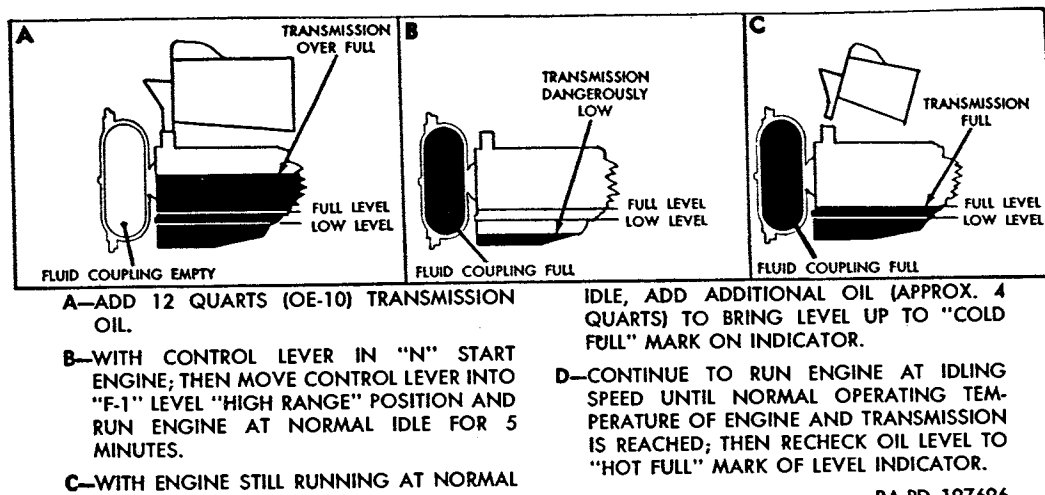

Figure 187. Typical method of filling transmission.
- (1) With transmission and fluid coupling thoroughly drained and drain plugs installed (*d* above), lift floor plate to gain access to transmission oil level indicator and filler cap. Clean all dirt from area around filler cap; then remove filler cap and level indicator.
- (2) Pour 12 quarts of engine lubricating oil (OE-10) into transmission case (A, fig. 187), or when temperature of $+10^{\circ}$ F. or below is expected, use subzero engine lubricating oil (OES). Be sure container and spout or funnel used to pour oil are clean. Install filler cap and level indicator in transmission oil filler tube.
- (3) With transmission control level in N (neutral) position and parking brake lever applied, start engine. Move control
- lever into F-1 HIGH RANGE position and run engine at idling speed for approximately 5 minutes (B, fig. 187).
- (4) Remove filler cap and level indicator from filler tube; then add sufficient additional oil (approx. 4 qts.) to bring oil level up to COLD FULL mark on indicator (C, fig. 187). Install filler cap and level indicator in oil filler tube.